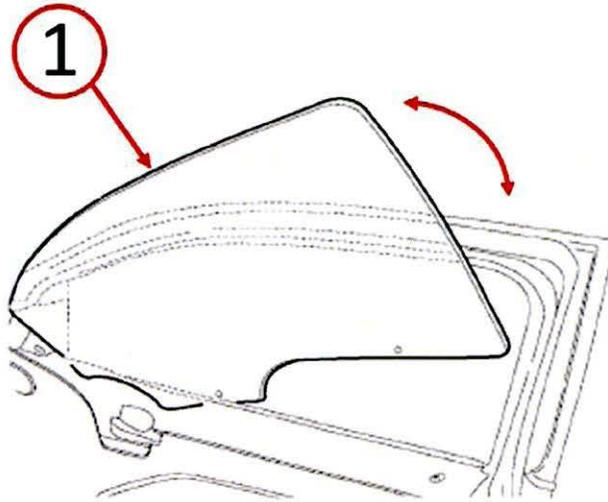

Fig. 9 Window Glass
9. Front door only, install the door glass to the door window channel (Fig. 9).